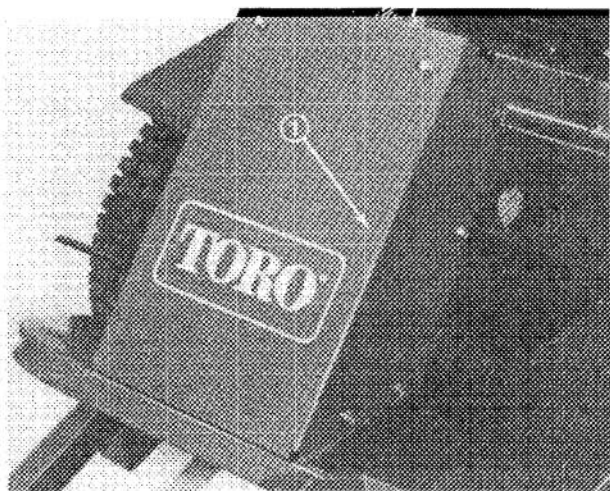

Figure 27
1. Remove the self tapping screws holding steering tower cover in place (Fig. 27) and remove cover.